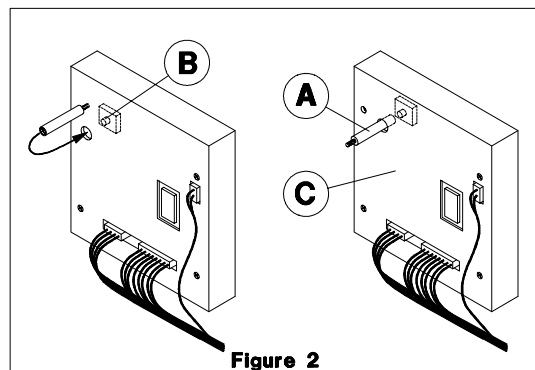

Figure 2
2. Refer Figure 2 to locate access hole to the Calibration Switch(B) which is on the underside of the Circuit Board Cover (C) left of the LCD.
3. Remove the "Calibration Tool" (A) (RTI Part No. 360-81214-00) from the lower mounting hole of the circuit board cover next to the access hole to the Calibration Switch (B).
4. From the Main Menu, press the "Up Arrow" key five times to display "WEIGHT=XX.X LB" "SETUP? ←". Insert the metal end of the Calibration Tool into the access hole to the Calibration Switch and press the Calibration Switch (B) with the Calibration Tool (A). The display will read "WEIGHT = XX.X LB" "CHARGING".